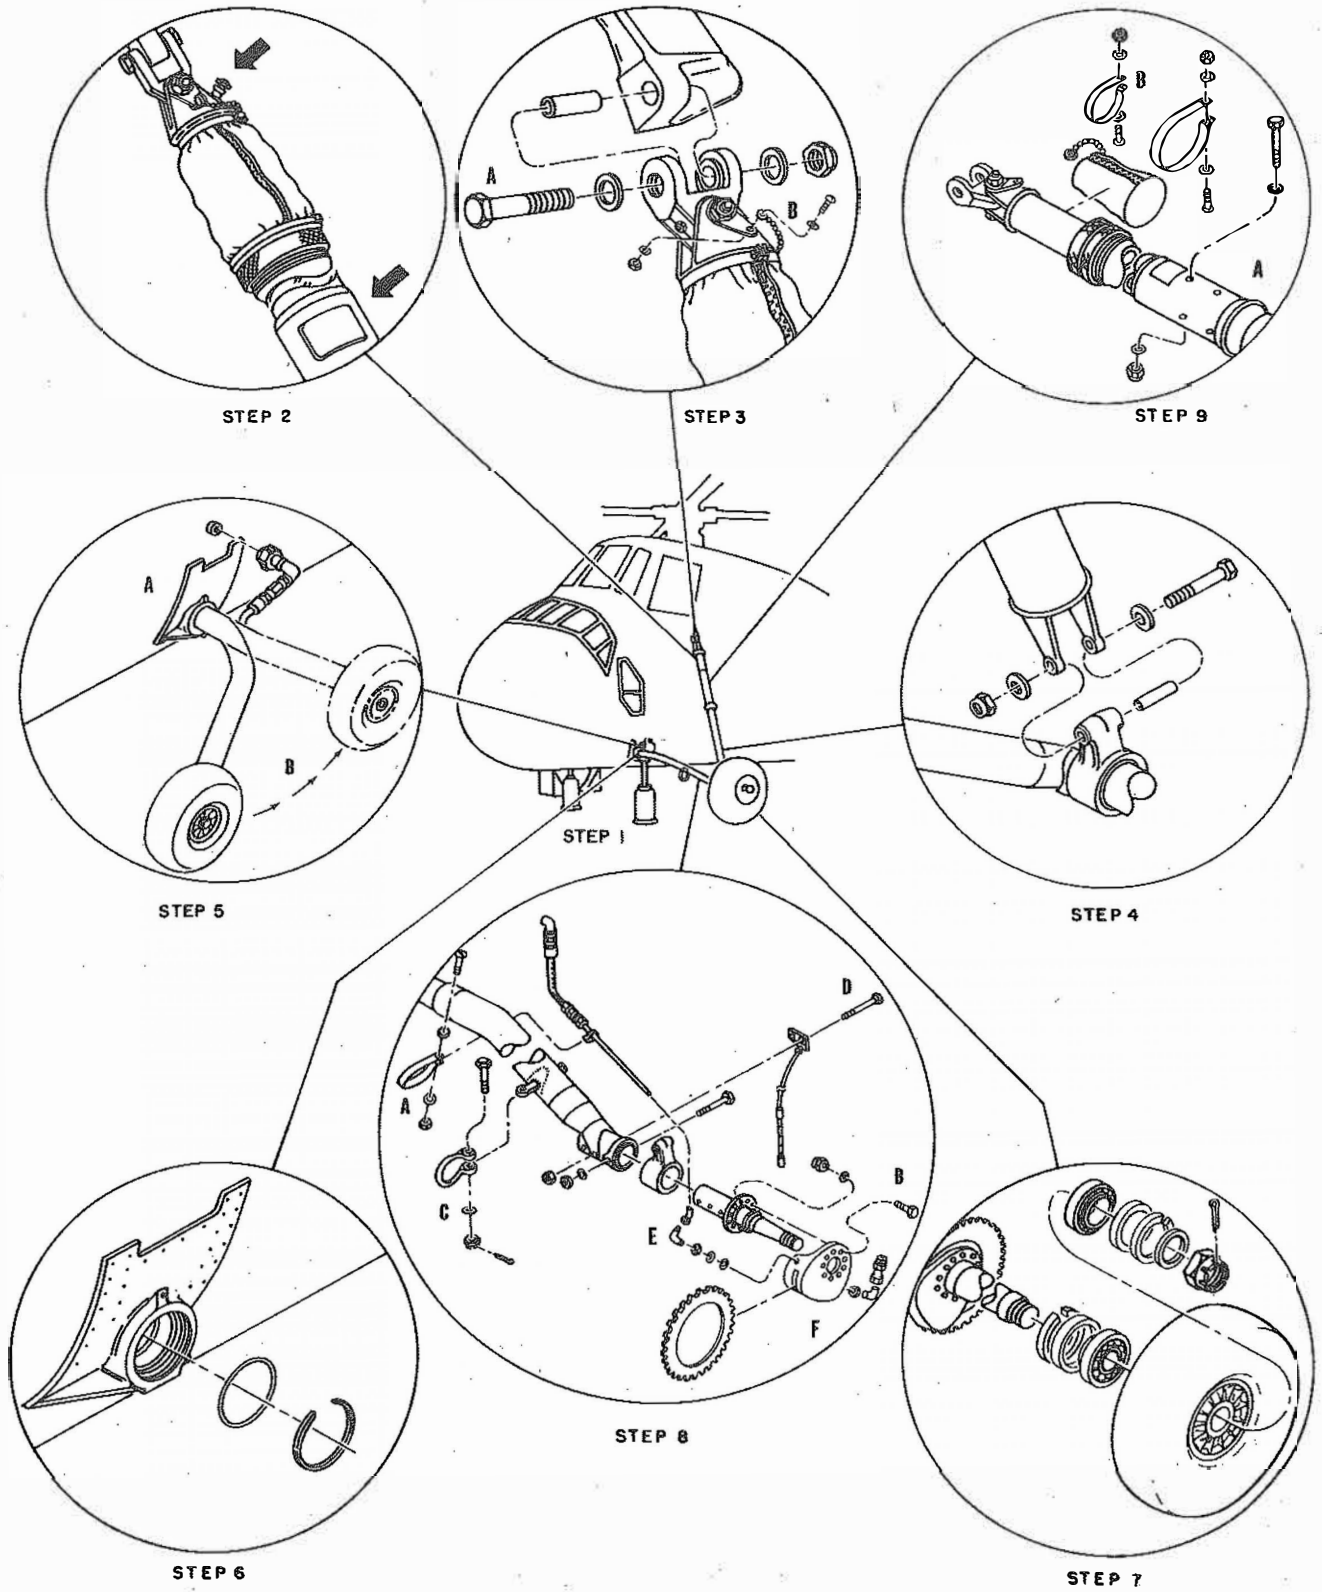

Figure 2-17. Main Landing Gear Removal and Disassembly
2-227. REMOVAL. (See figure 2-17.)
c. Disconnect the brake hydraulic line from the fuselage at the quick disconnect coupling at "A" (step 5, figure 2-17). Rotate the leg and axle assembly, with the wheel attached, aft and upward as at "B" (step 5) and pull the leg out of the fuselage fittings.
2-229. INSTALLATION. (See figure 2-17.)
d. Remove the support from the helicopter (step 1, figure 2-17).
2-232. REMOVAL. (See figure 2-17.)